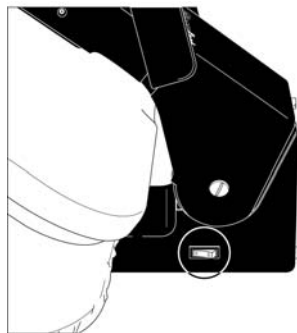

FIGURE 1
1. Plug power cord into electrical outlet, and set On/Off Switch to “On” position (FIGURE 1).